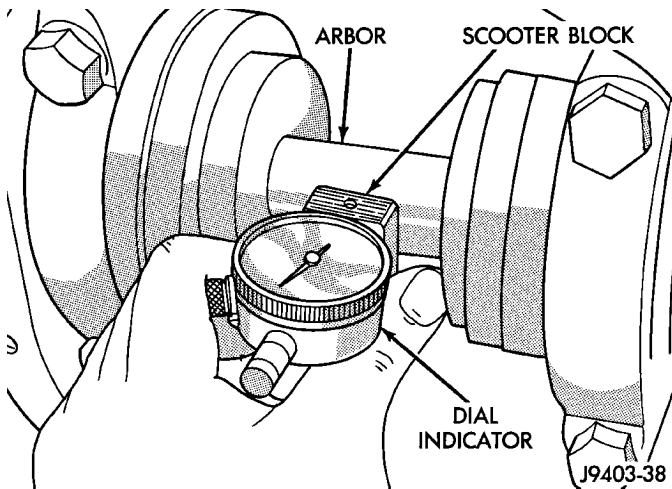

Fig. 66 Pinion Gear Depth Measurement—Typical
(7) With scooter block still in position against the pinion height block, slowly slide the dial indicator probe over the edge of the pinion height block.
(8) Slide the dial indicator probe across the gap between the pinion height block and the arbor bar with the scooter block against the pinion height block (Fig. 66). When the dial probe contacts the arbor bar, the dial pointer will turn clockwise. Bring dial pointer back to zero against the arbor bar, do not turn dial face. Continue moving the dial probe to the crest of the arbor bar and record the highest reading. If the dial indicator can not achieve the zero reading, the rear bearing cup or the pinion depth gauge set is not installed correctly.